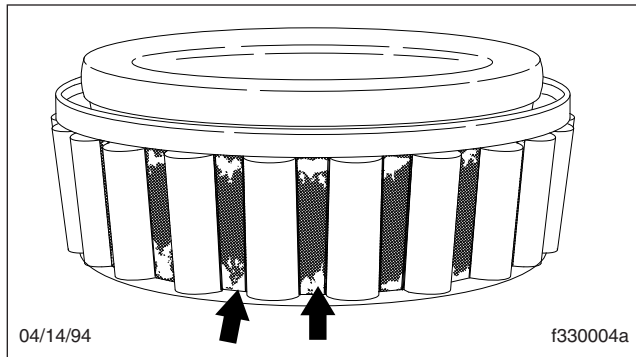

Fig. 6, Rubbing Marks on Bearing Cage
- Bright rubbing marks on the dark phosphate surfaces of the bearing cage. See Fig. 6.